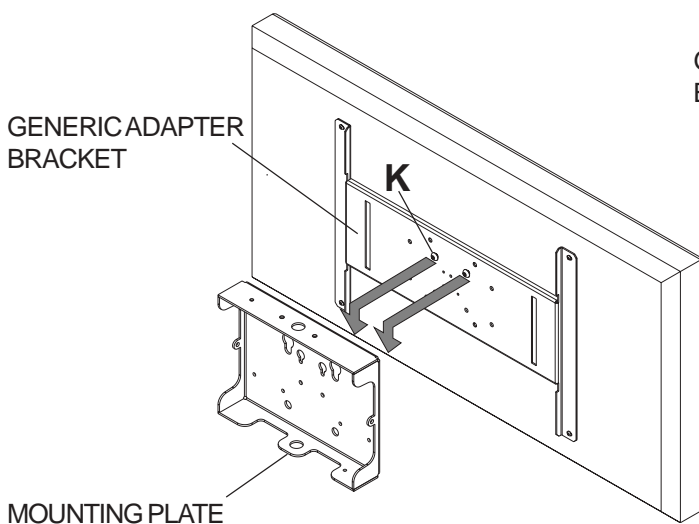

fig. 7.7
- 7 Thread two M10 x 15 mm screws (**K**), leaving .25" exposed thread, into top holes on back of screen. Hook screen onto mounting plate, and attach using two bottom M10 x 15 mm screws as shown in figures 7.7 and 7.8. Tighten screws using 6 mm allen wrench (not included).